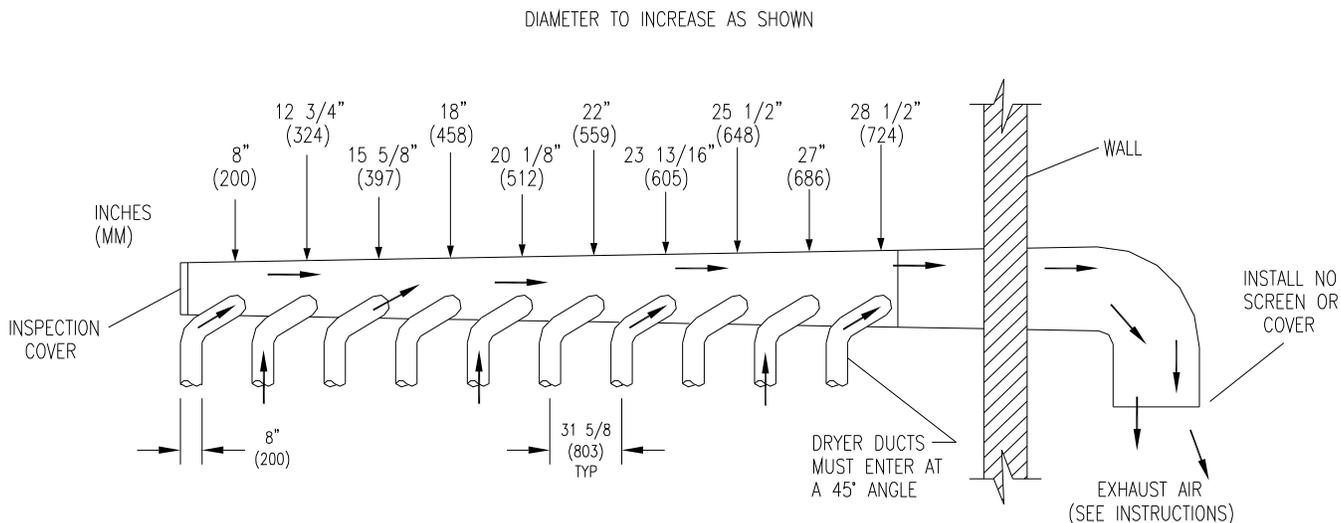

FIGURE 3- Dryer Exhausting Using A Main Discharge Duct.
4. EXHAUST INSTALLATION. (Refer to Figure 3) Exhausting of the dryer(s) should be planned and constructed so that no air restrictions occur. Any restriction due to pipe size or type of installation can cause slow drying time, excessive heat, and lint in the room.
Installation of several dryers, where a main discharge duct is necessary, will need the following considerations for installation (see Figure 3). Individual 6" (152 mm) exhaust ducts from each dryer should enter main discharge duct at a 45-degree angle in the direction of discharge airflow.
NOTE: Never install the individual ducts at a right angle into the main discharge duct. The individual ducts from the dryers can enter at the sides or bottom of the main discharge duct. Figure 3 indicates the various round main duct diameters to use with the individual dryer ducts. The main duct can be rectangular or round, provided adequate airflow is maintained. The total exhausting (main discharge duct plus duct outlet from the dryer) should not exceed the equivalent of 14 ft. (4.25 m) and two elbows. The diameter of the main discharge duct at the last dryer must be maintained to exhaust end.